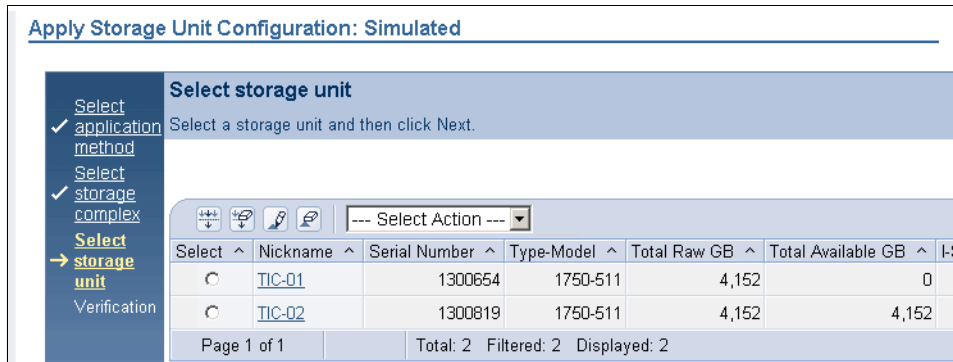

Figure 12-16 Applying a configuration: Selecting the Storage Unit
8. Select the Storage Unit you are going to be applying the configuration to, as shown in Figure 12-16. In this example, there are two machines. The machine TIC-01 is already configured. If it was accidentally selected, the application will not start because of that existing configuration. A visual prompt is that the Total Available GB column for TIC-01 has 0 GB while for TIC-02, the Total Raw and Total Available columns are the same.